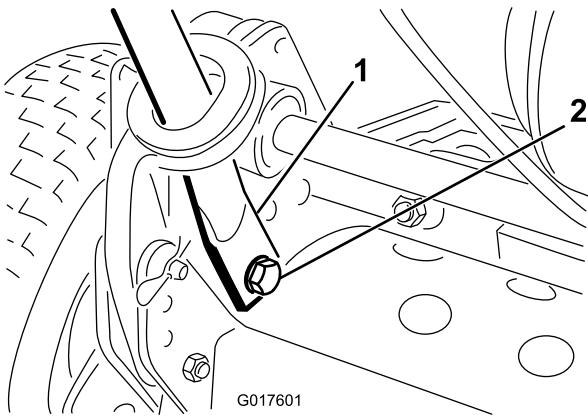

Figure 4
4. Squeeze the handle ends inward and install them on the mounting pins (Figure 4).
5. Secure the handle ends to the mounting pins with the bolts, washers, and lockwashers provided (Figure 4).
6. Secure the bottom of the handle arms to each side of the mower with the bolts and locknuts previously removed (Figure 4). Ensure that you install the bushings in the handle arm mounting holes.
7. Secure the handle arms to the rear of the frame with the hairpin cotters and ring pins previously removed (Figure 4).